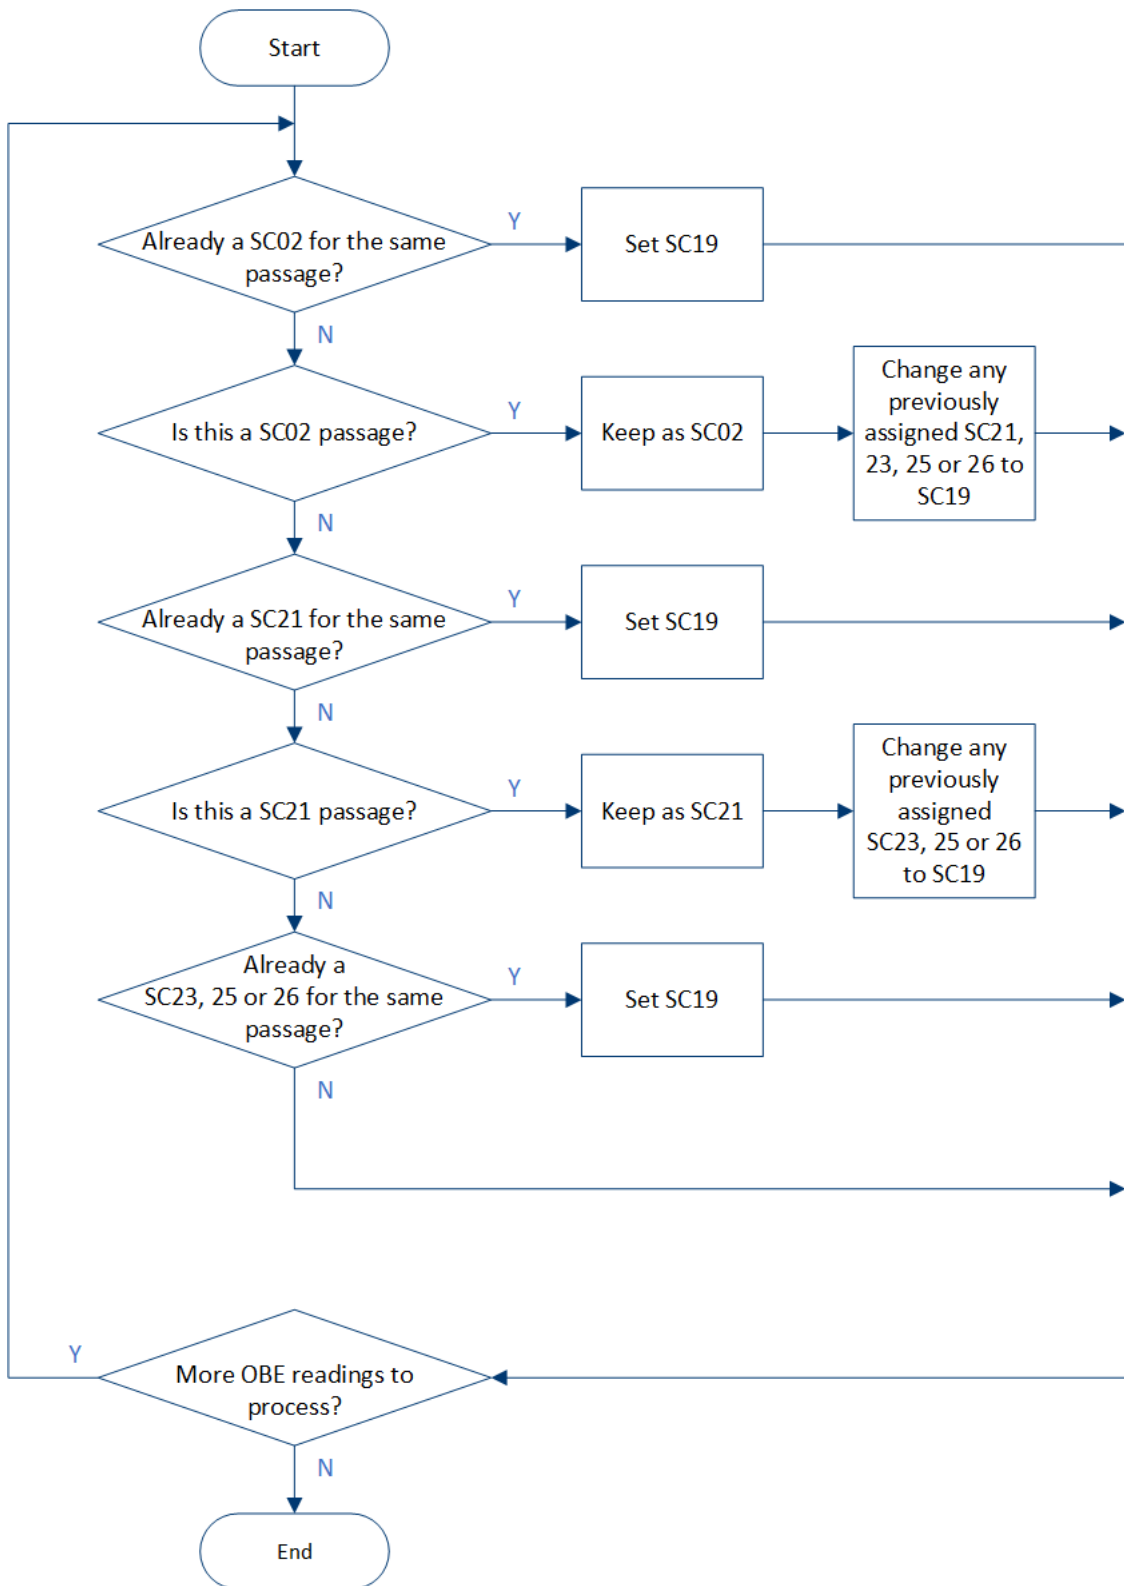

Figure 2 - Flow chart for handling of multiple OBE in a single passage
Signal Codes (SC) describe the type of transaction as a result of the processing of the passage in the CPE. The CPE shall process vehicle detections and OBE readings according to the flow chart in Figure 2 as well as to the descriptions given in this document.
The flow chart in Figure 2 illustrates the above.